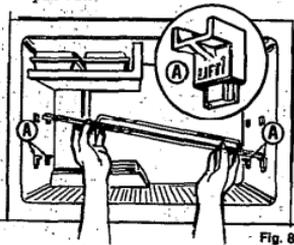

Fig. 8
2. Remove shelf supports "A" by sliding them upward, and reposition them on lower set of base mounts (Fig. 8).